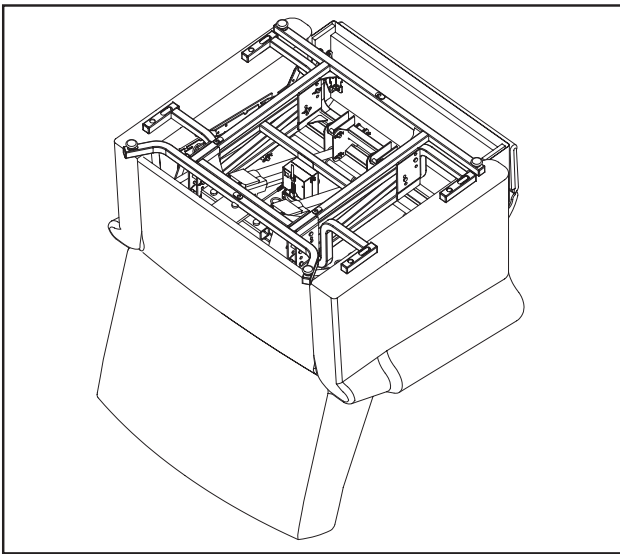

Figure 1. Upside Down View
2. Turn the lift chair upside down. Use a table or other stable item to support the lift chair. See figure 1.